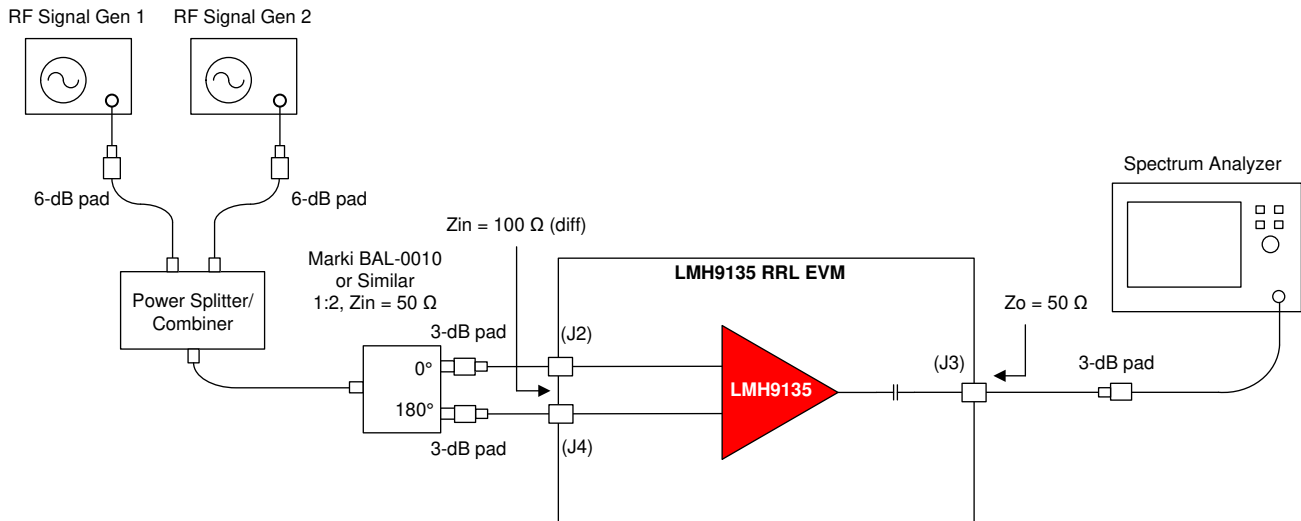

Figure 3-4. OIP3 Test Setup
1. As Figure 3-4 shows, combine two signal generator outputs using an in-phase power splitter and combiner. A 6-dB attenuator is recommended at the signal generator outputs to prevent the generators from coupling to each other and resulting in signal generator IMD3 spurs.